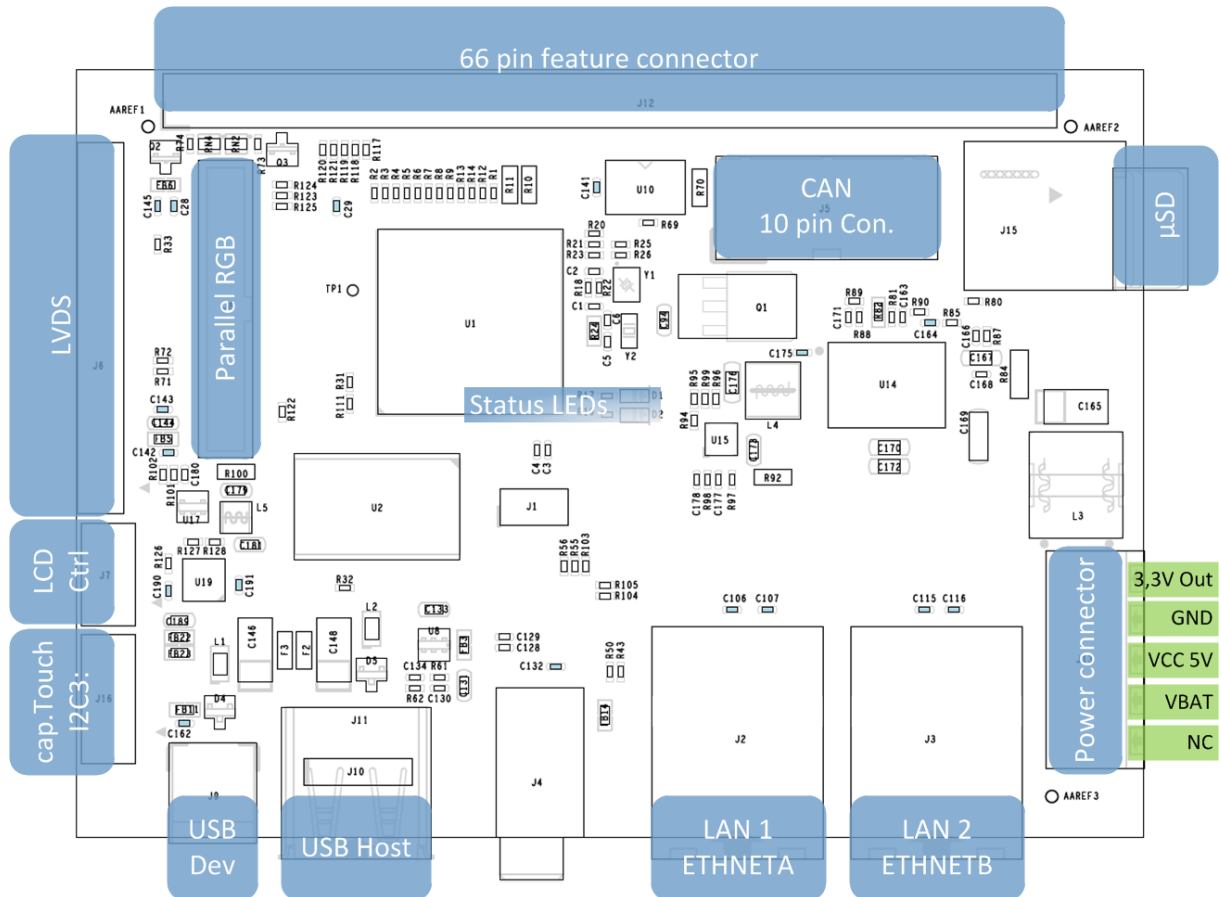

Figure 1: armStoneA5 pico-ITX interfaces (top side)
Before you power on armStoneA5, you should make a serial connection between armStoneA5 and your PC. Please use the cables shipped with the armStoneA5 Starterkit to connect your PC to the Debug-Port of the armStoneA5. The Debug-Port resides on the 66 pin feature connector. (see Figure 1). The pins are located at a 10 pin dual row connector which is mounted at pin 53 to 62. That allows attaching a standard 9pin to DSUB9 adapter cable for debug output of boot loader and kernel with TX and RX to a terminal. Pin 1 of this adapter should connect on pin 53 of the 66 pin connector.
- Make a cable between power connector of armStoneA5 (see Figure 1) and your power supply. Usually you need to connect ground and +5V (2A).